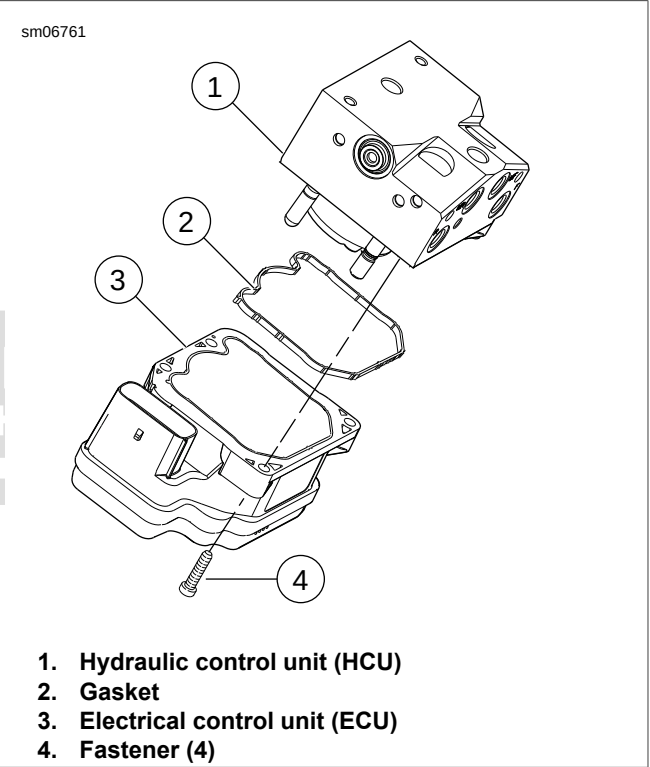

Figure C-4. ABS Module Components
- See Figure C-4. With ABS module removed from motorcycle, remove four fasteners (4) and separate ECU (3) from HCU (1).
- Install **new** gasket (2) to ECU (3).
- Secure ECU to HCU using four fasteners (4). Tighten fasteners in a crisscross pattern to 4-6 Nm (35-53 in-lbs).